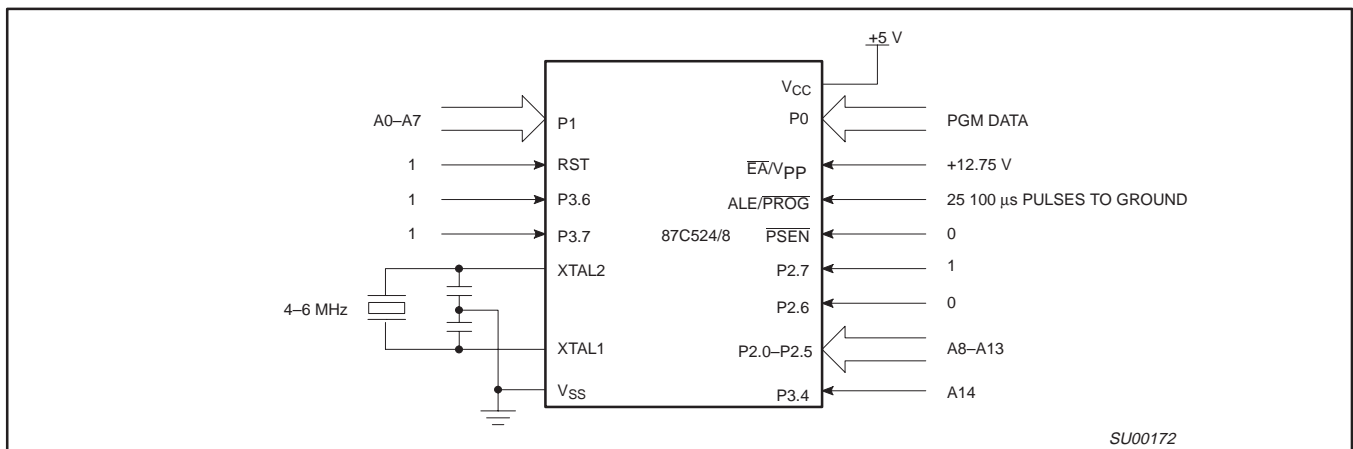
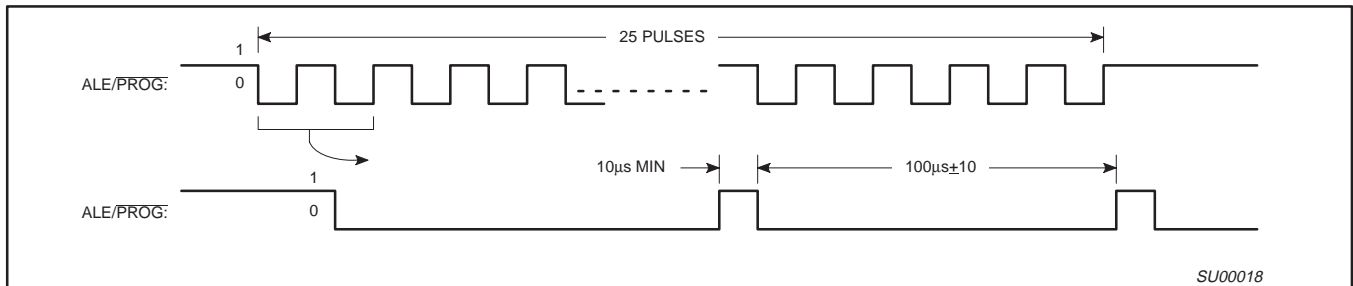
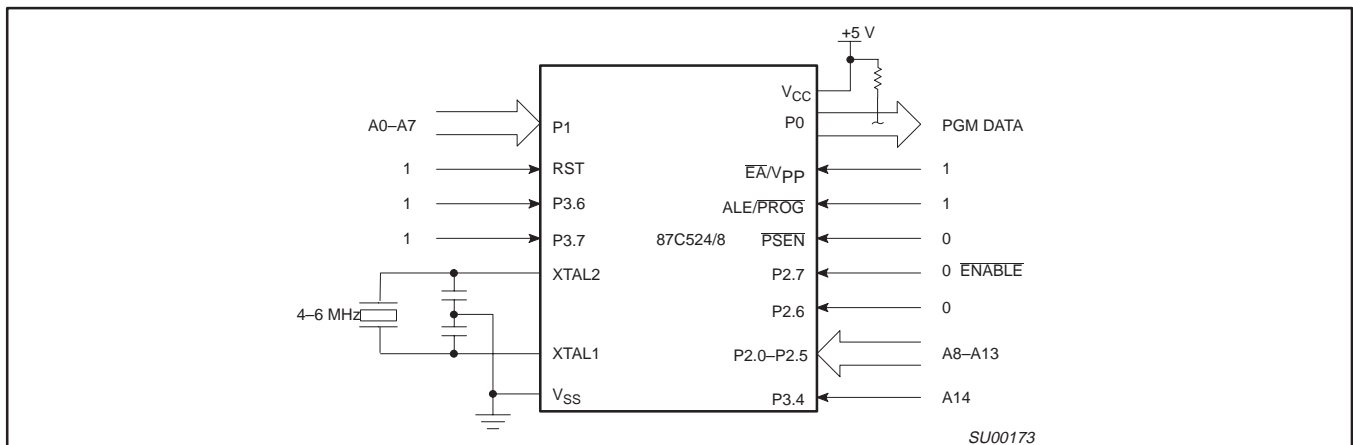

Figure 14. Programming Configuration
Figure 15. PROG Waveform
Figure 16. Program Verification
Table 6 shows the logic levels for reading the signature byte, and for programming the program memory, the encryption table, and the lock bits. The circuit configuration and waveforms for quick-pulse programming are shown in Figures 14 and 15. Figure 16 shows the circuit configuration for normal program memory verification.
The setup for microcontroller quick-pulse programming is shown in Figure 14. Note that the 87C528 is running with a 4 to 6MHz oscillator. The reason the oscillator needs to be running is that the device is executing internal address and program data transfers.
The address of the EPROM location to be programmed is applied to ports 1, 2 and 3, as shown in Figure 14. The code byte to be programmed into that location is applied to port 0. RST, PSEN and pins of ports 2 and 3 specified in Table 6 are held at the 'Program Code Data' levels indicated in Table 6. The ALE/PROG is pulsed low 25 times as shown in Figure 15.
If lock bit 2 has not been programmed, the on-chip program memory can be read out for program verification. The address of the program memory locations to be read is applied to ports 1, 2 and 3 as shown in Figure 16. The other pins are held at the 'Verify Code Data' levels indicated in Table 6. The contents of the address location will be emitted on port 0. External pull ups are required on port 0 for this operation.
The setup for microcontroller quick-pulse programming is shown in Figure 14. Note that the 87C524 is running with a 4 to 6 MHz oscillator. The reason the oscillator needs to be running is that the device is executing internal address and program data transfers.
The address of the EPROM location to be programmed is applied to ports 1, 2 and 3, as shown in Figure 14. The code byte to be programmed into that location is applied to port 0. RST, $\overline{\text{PSEN}}$ and pins of ports 2 and 3 specified in Table 6 are held at the 'Program Code Data' levels indicated in Table 6. The ALE/PROG is pulsed low 25 times as shown in Figure 15.
in Figure 16. The other pins are held at the 'Verify Code Data' levels indicated in Table 6. The contents of the address location will be emitted on port 0. External pull-ups are required on port 0 for this operation.
* FOR PROGRAMMING VERIFICATION SEE FIGURE 14.
FOR VERIFICATION CONDITIONS SEE FIGURE 16.